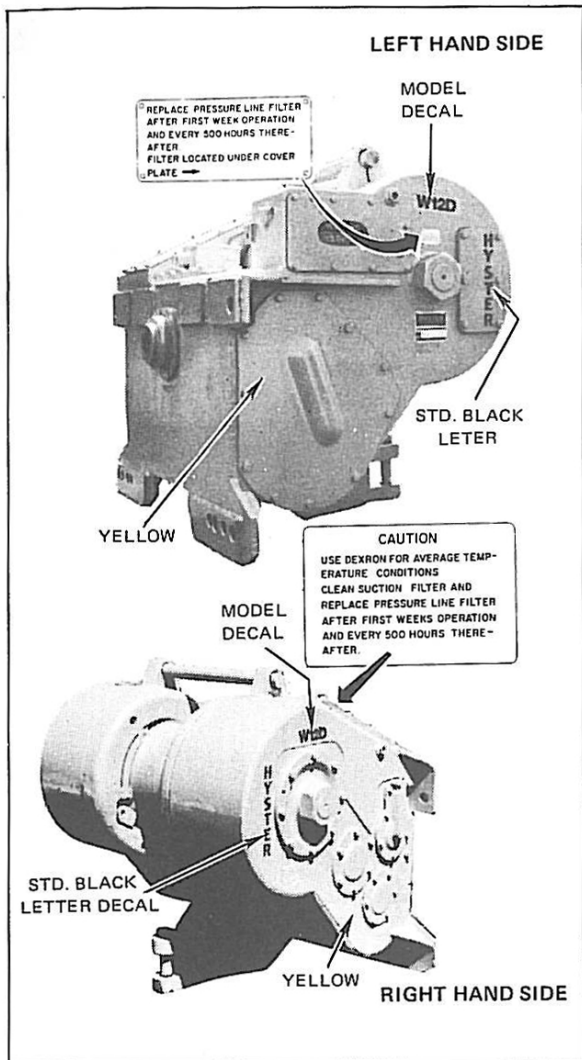

Figure 21. Painting and Decals
Upon completion of unit overhaul or major repairs, paint the exterior sections of the winch as follows (see Figure 21):
A. A Caution Decal is located on the drum gear cover, as shown in Figure 21. Make sure that all markings on the decal are clearly legible and that the decal is installed in the correct location. If the decal has been lost or damaged, install a new decal in the proper location.
B. The unit nameplate is located on the left-hand side of the winch housing as shown in Figure 21. Data contained on the nameplate is given in the UNIT IDENTIFICATION section of this manual. If the nameplate has been damaged, install a new nameplate in the same location. Use drive screws for nameplate installation.
C. A filter service plate is located on the left-hand side of the winch housing as shown in Figure 21. If the service plate has been damaged, install a new plate in the location shown. Use drive screws to retain the plate on the housing.
D. The model decals and logotype letter decals are used on both sides of the winch housing as shown in Figure 21. Replace as necessary.